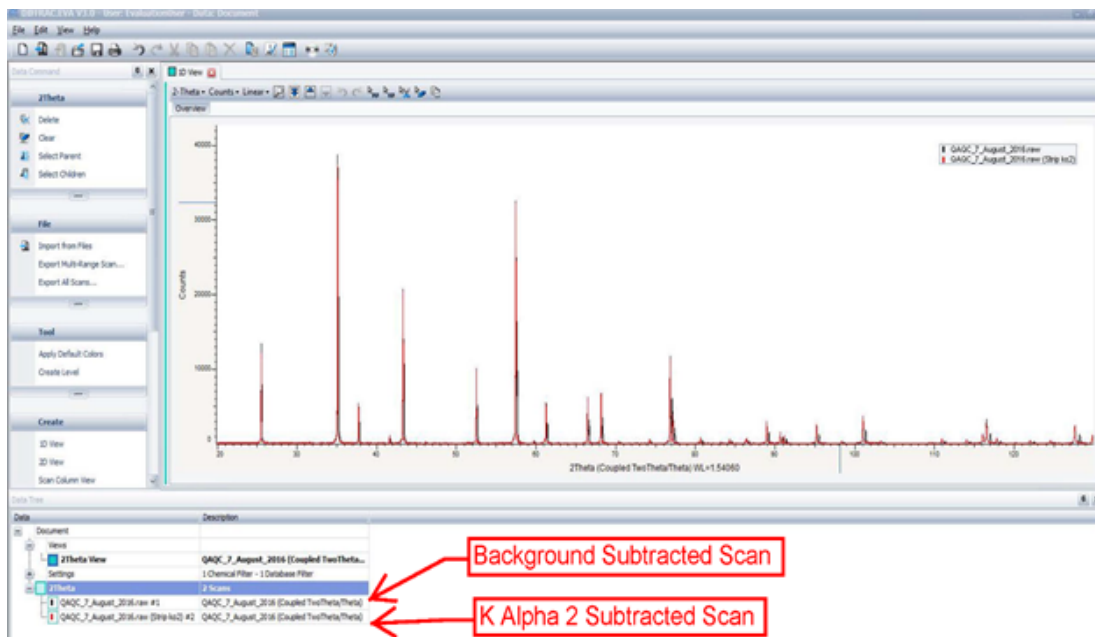

Figure 31: Diffractogram with two scans in Data Tree panel. Top arrow points to the Background Subtracted scan. The bottom arrow points to the K2 scan
(2) Strip K_2 Tool
4. In the "Data Tree" panel there are two scans: Background Subtracted Scan and K_2 Subtracted Scan (Figure 31). For both of these scans, you will "Create Area" and "Append Area" for four angle ranges. This will insert area information as a subtree entry under that scan.